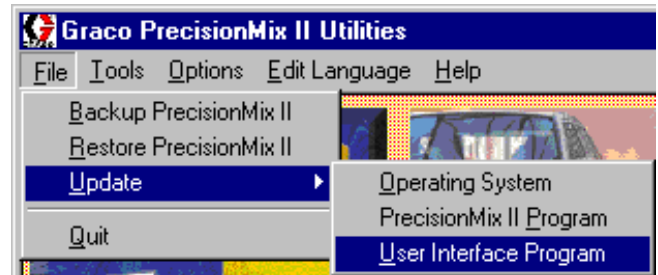

Fig. 13.36
- Select File ► Update ► User Interface Program (Fig. 13.36) or press the Update User Interface Program button (Fig. 13.37).